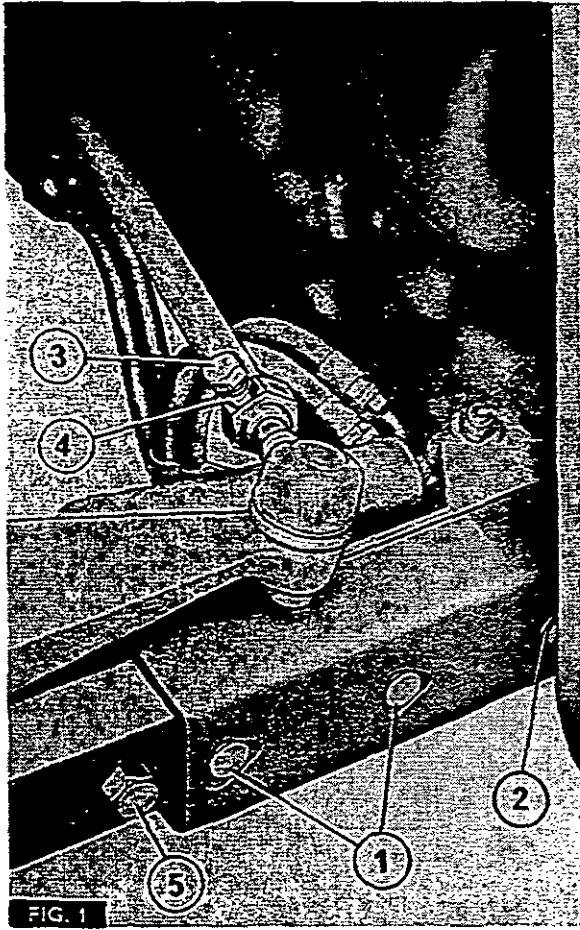

FIG. 1
2. Fig. 1. Remove the two bolts (1), nuts and washers securing each outer axle arm to the centre beam.
3. Remove the bolt (2), nut and washer securing each power steering ram bracket to the centre beam (power steering tractors only)
**NOTE - DO NOT REMOVE THE BOLT (5) SECURING EACH RAM BRACKET TO THE OUTER AXLE ARMS.**
4. Loosen the locknut (4) and bolt (3) securing each telescopic ball end to the front of each drag link.
2. Remove the spindle and hub assembly as stated in items 2 to 4 of operation 6A-04-00.
3. Fig. 1. Remove the two bolts (1) nuts and washers securing the outer axle arm to the centre beam.
4. Remove the bolt (2) nut and washers securing the power steering ram bracket to the centre beam (power steering tractors only).
5. Remove the bolt (5) nut and washer securing the power steering ram bracket to the outer axle arm (power steering tractors only).